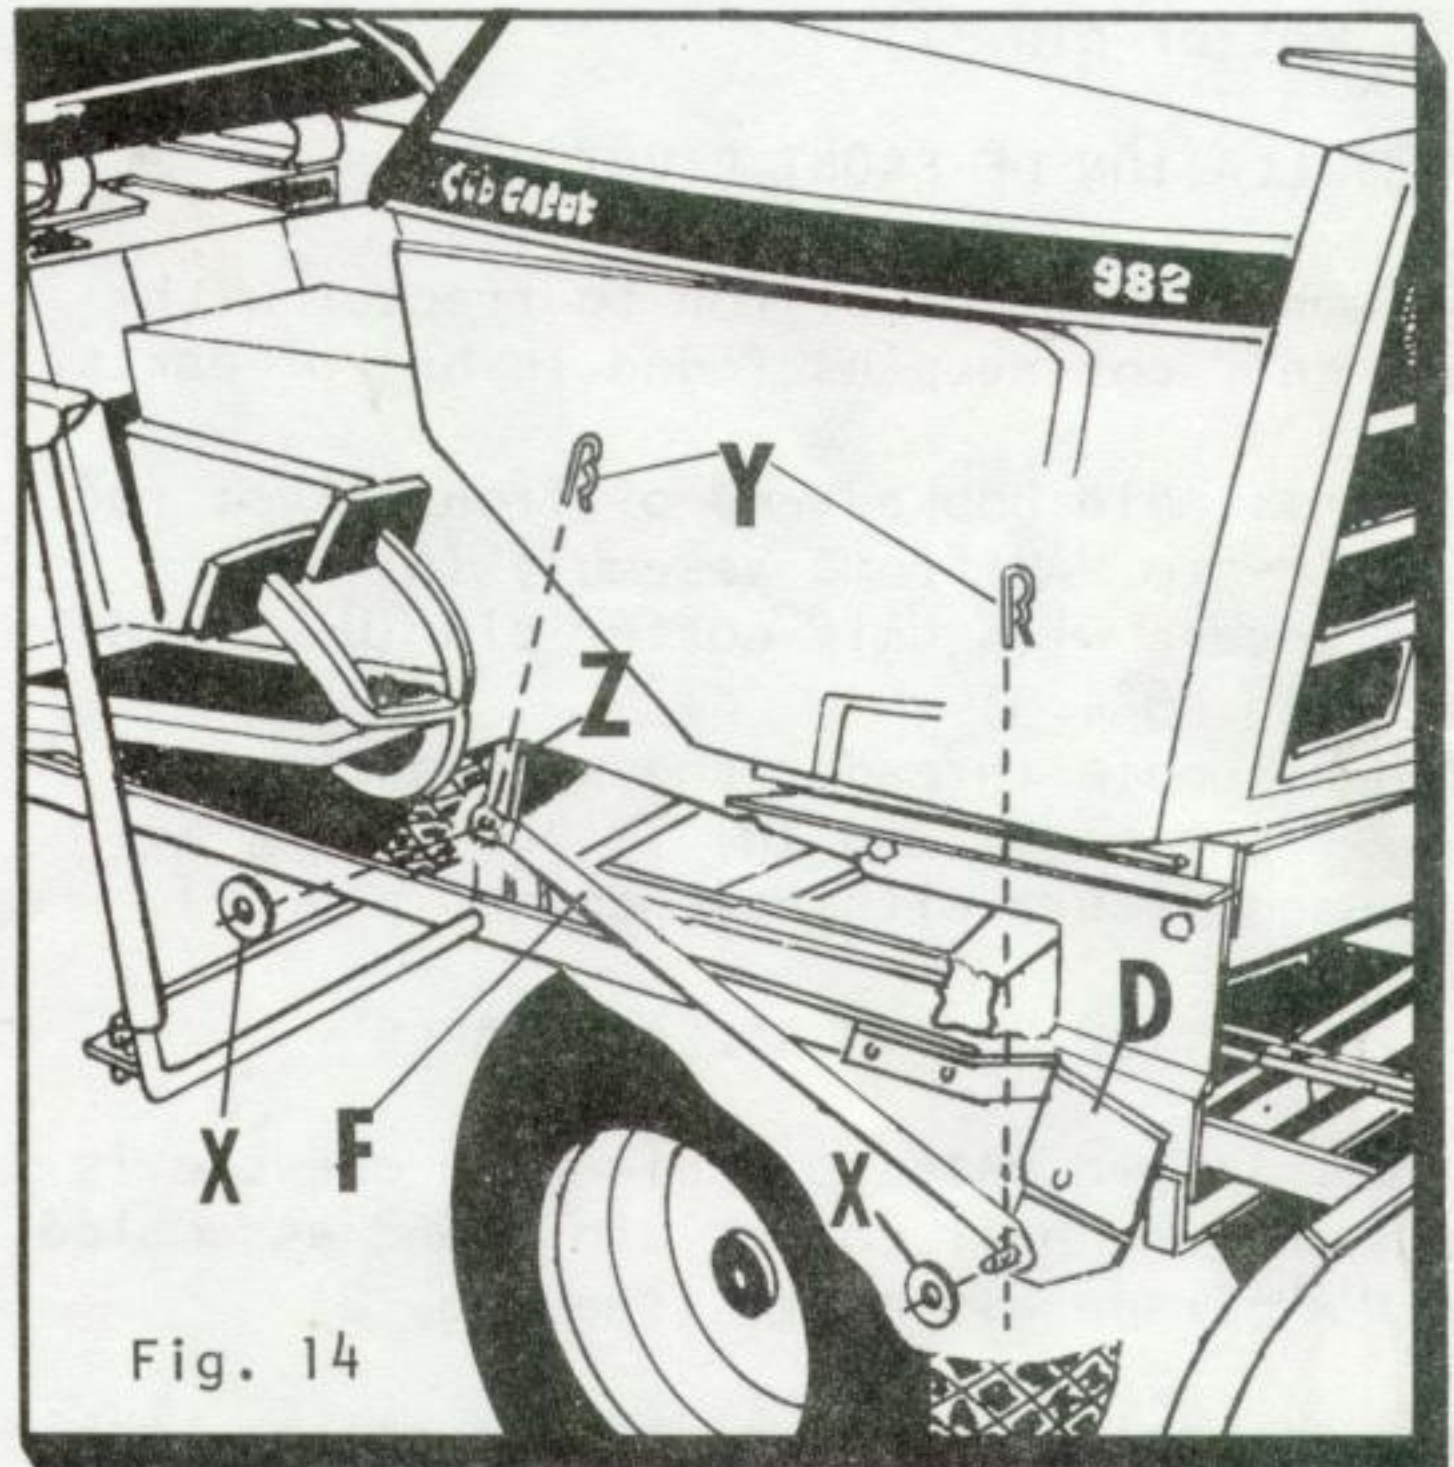

Fig. 14
1. Assemble lift tube (F) onto tractor lift bracket (Z) and secure with washer (X) and with hair cotter pin (Y). (See Fig. 14)
2. Assemble lift tube (F) onto lift bracket assembly (D) and secure with washer (X) and with hair cotter pin (Y).